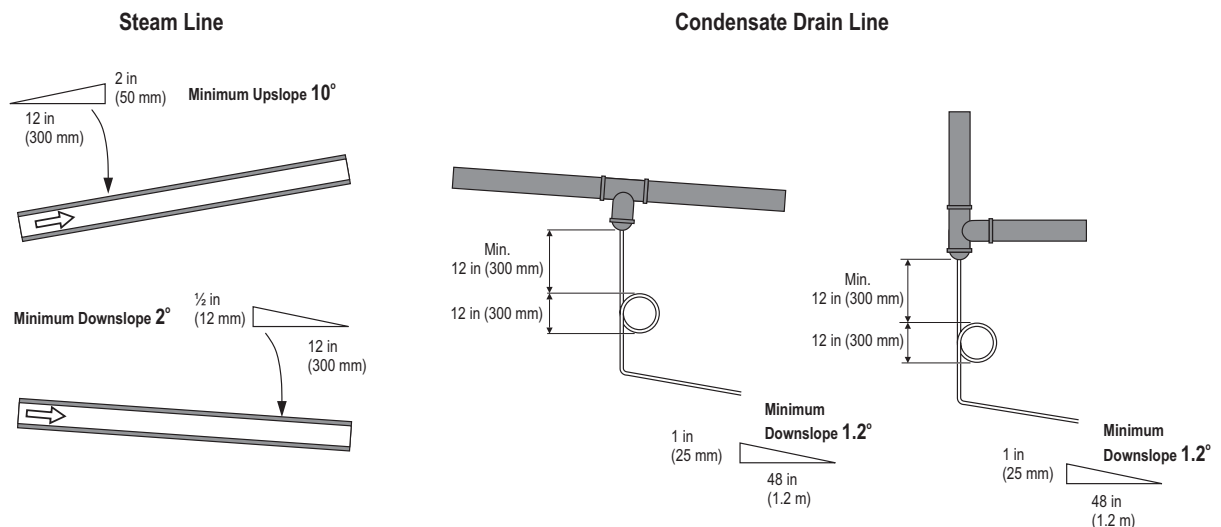

Figure 13: Steam and Condensate Line
- The steam line from the humidifier must lead straight upwards for a minimum of 12 in (300 mm), before continuing on to the steam distribution system – refer to Table 13 on page 27. The steam line must have a minimum upslope of 10°, or a minimum downslope of 2° to the steam distributor – refer to Figure 13 on page 28.
- Condensate traps must also be installed at all low points and at horizontal-to-vertical transitions in the steam line. The condensate drain lines should always connect to full-size "Tee" connectors in the steam line. Refer to Figure 13 on page 28.